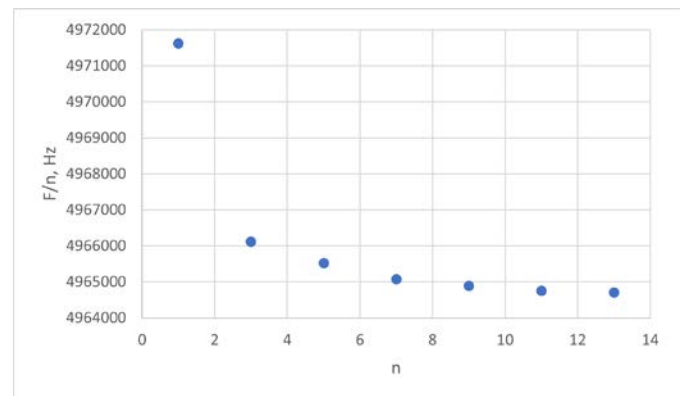

Figure 6: Plot showing the frequency dependence over overtone number for the example 5 MHz sensor.
- Calculate F/n and plot it against n to visualize the dependence of the resonance frequency on the overtone order (Figure 6).